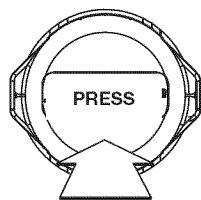

Fig. 21
5. Reattach the bump cap by aligning the tabs of the bump cap with the tab lock windows of the outer spool and press down firmly until both tabs snap back into place. (Fig. 21)